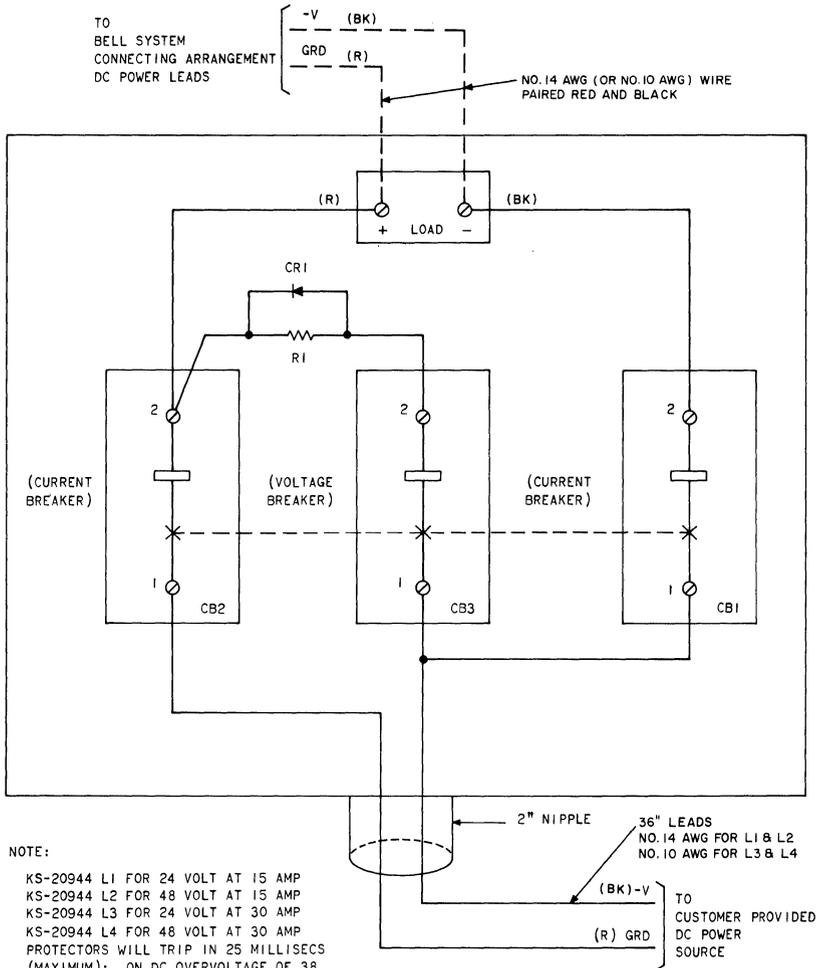

Fig. 11—Schematic—KS-20944 Protector
KS-20944 Protector (Fig. 11)
3.21 Connect as shown in Fig. 11 following local wiring instructions. The customer must connect his power supply to the red (GRD) and black (-V) 14-gauge leads extending from the unit.
B. KS-20944 Protector (Fig. 11)
6.05 For connection information using the KS-20944 protector, refer to Fig. 11.